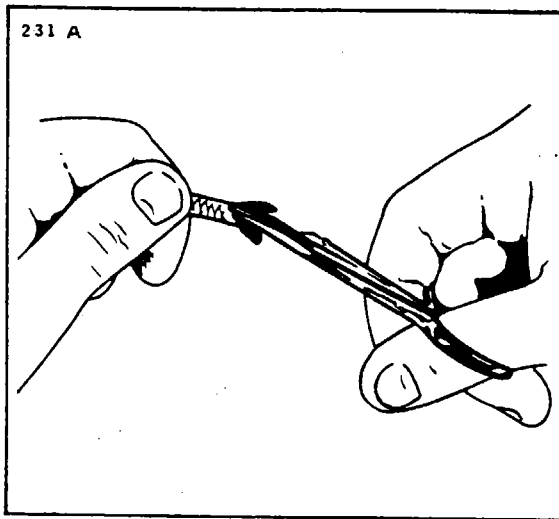

Figure 8-21. Cutting Metallic Braid From End of Lead
8. Using electrician's scissors, carefully remove 1.250 inch of outer braid from end of lead. Refer to Figure 8-21.